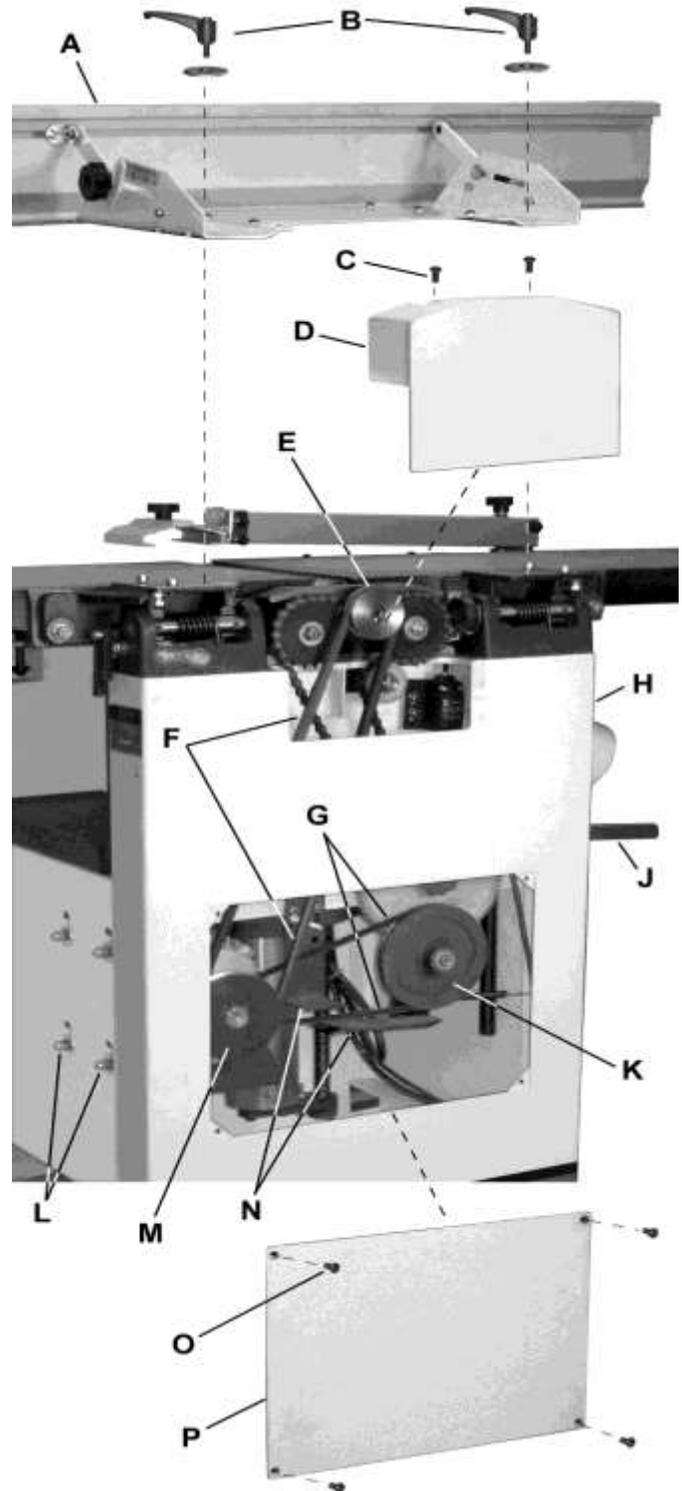

Figure 9
1. Remove the jointer fence assembly (A Fig.9) by first loosening and removing two lock handle assemblies (B). A 4mm hex wrench is helpful, but not necessary.
2. Remove two button head socket screws (C) and upper back panel (D).
3. Remove four button head socket screws (O) and lower back panel (P).
4. Loosen four motor mount screws (L). Lift the motor and rest it in the horizontal slot side of the motor mount opening. This will create a slack in the cutterhead drive belt (F).
5. Remove the cutterhead drive belt (F) from around the cutterhead pulley (E) and motor pulley (M).
6. If the feed-roller belt (K) is to be replaced, continue. Otherwise proceed to step 10.